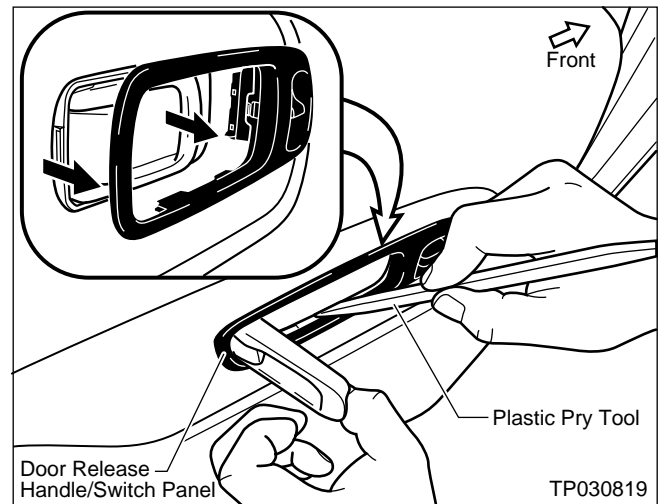

Figure 41
3. Use a Plastic Pry Tool to carefully remove the Door Release Handle/Switch Panel (see Figure 41).